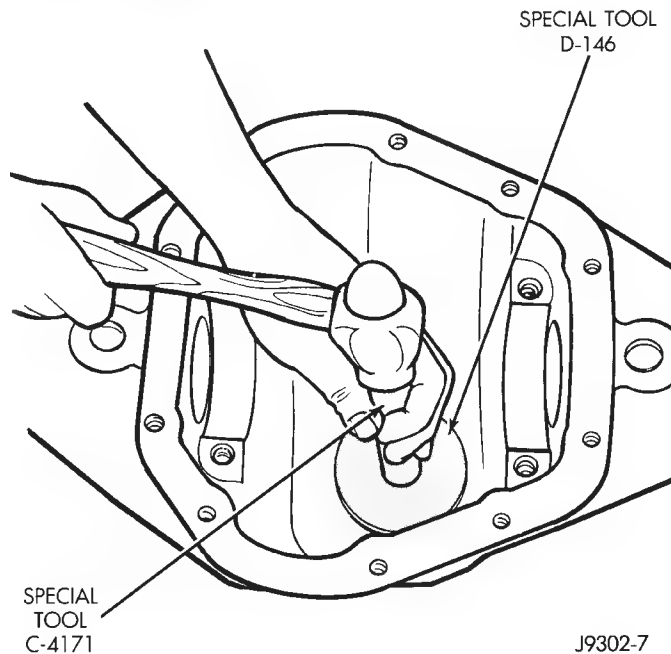

Fig. 46 Pinion Rear Bearing Cup Installation
(2) Install the bearing cup with Installer D-144 and Driver Handle C-4171 (Fig. 46). Ensure cup is correctly seated.